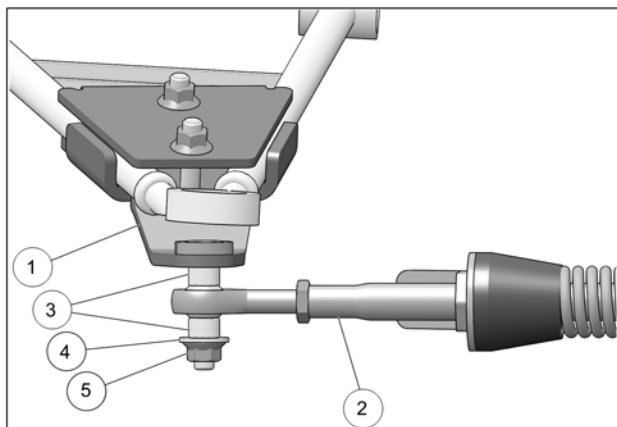

Fig. 21
- Attach the stabilizing rod (2) to the anchor bracket (1), using the two spacers (3), washer (4), and nut (5). Torque to 70 N•m [52 lb•ft]. Refer to Fig. 21